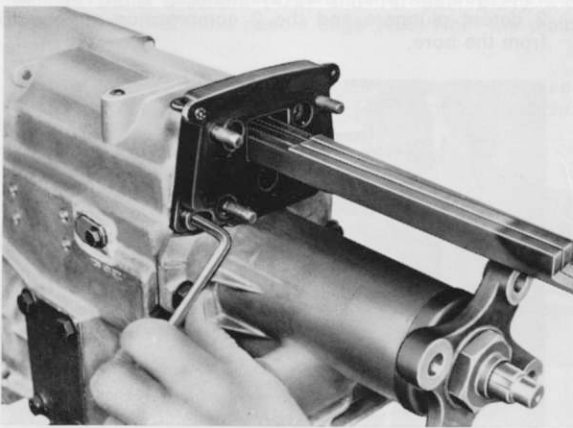

Fig. 6
1.5 Take out cylindrical screws (645) (Fig. 6) and take off vibration damper (644).